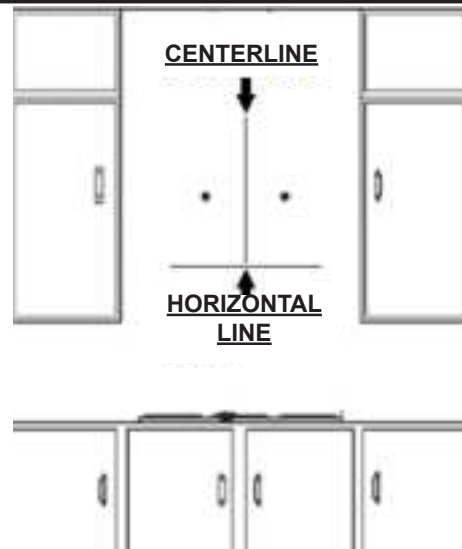

Figure 1.
- Draw a horizontal line at the desired installation height — minimum 30" above the cooktop. See Figure 1.